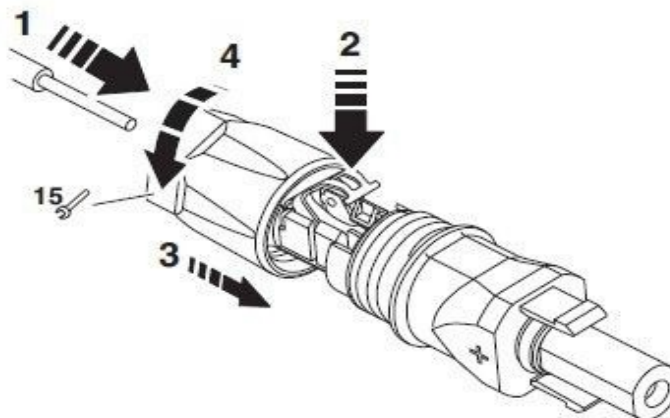
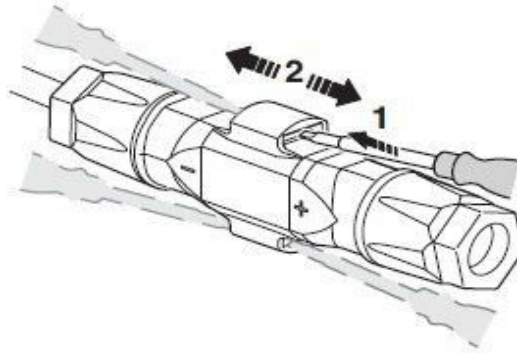

Figure 16
Figure 17
Please see **Figure 16** and **Figure 17** for DC connector disassembling guide.
Please ensure that the spring is closed. (see **Figure 16.**)
3. Push connectors together. (see **Figure 17.**)